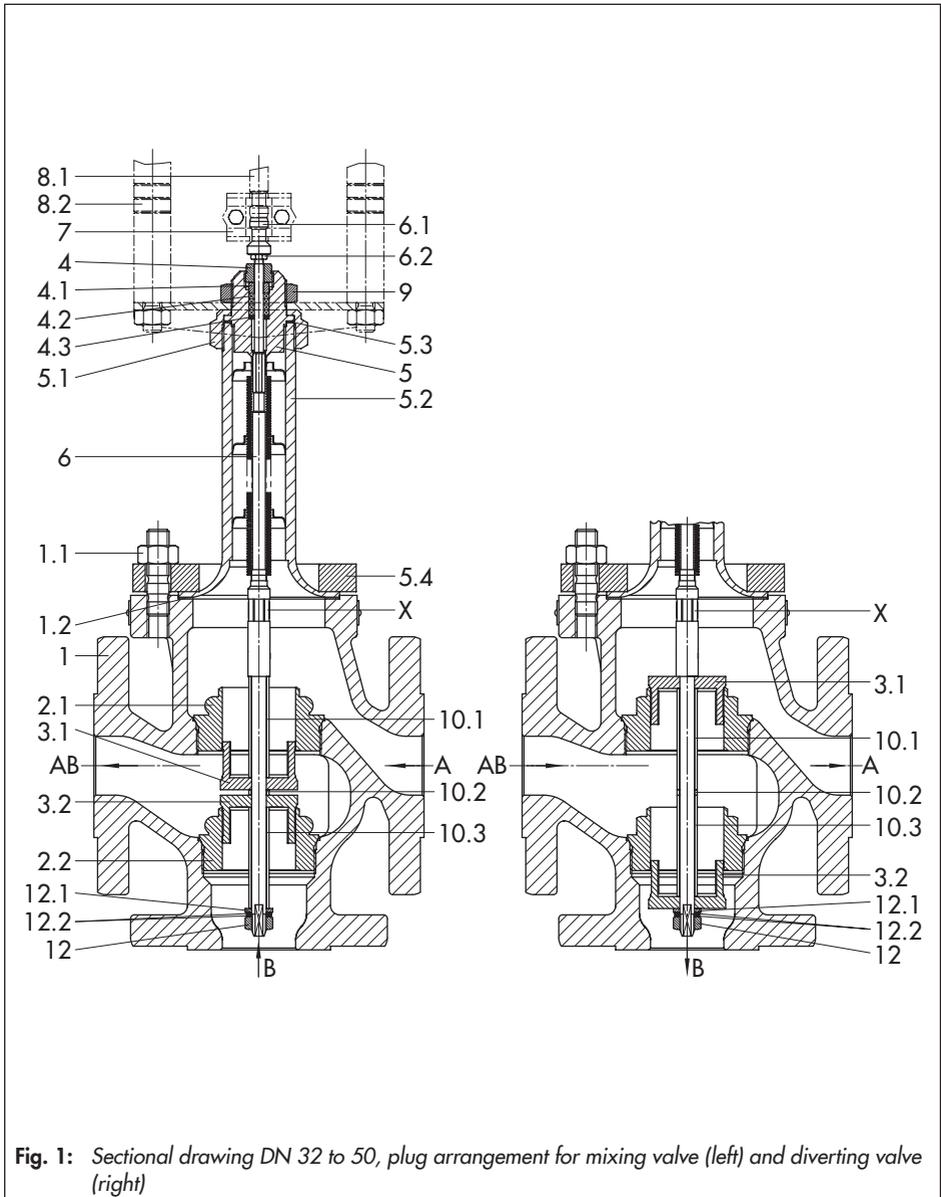

Fig. 1: Sectional drawing DN 32 to 50, plug arrangement for mixing valve (left) and diverting valve (right)
Before performing any repair work, remove the actuator from the valve. Unscrew the screws on the stem connector (7) and the nut (9). Lift the actuator off the valve (see Fig. 1).
Mixing and diverting valves in DN 32 to 80 differ in the arrangement of their plugs and sleeves (see Fig. 1). Valves in DN 15 to 25 have the same plug and sleeve arrangement.